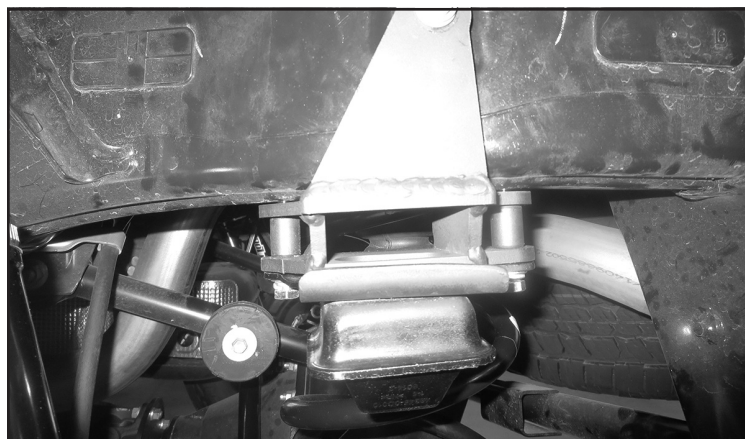

FIGURE 31 - STEP 36
36. Install the factory bumpstop to the new bracket using the supplied 8mm bolts and washers. Torque to 18 ft-lbs. **SEE FIGURE 31**